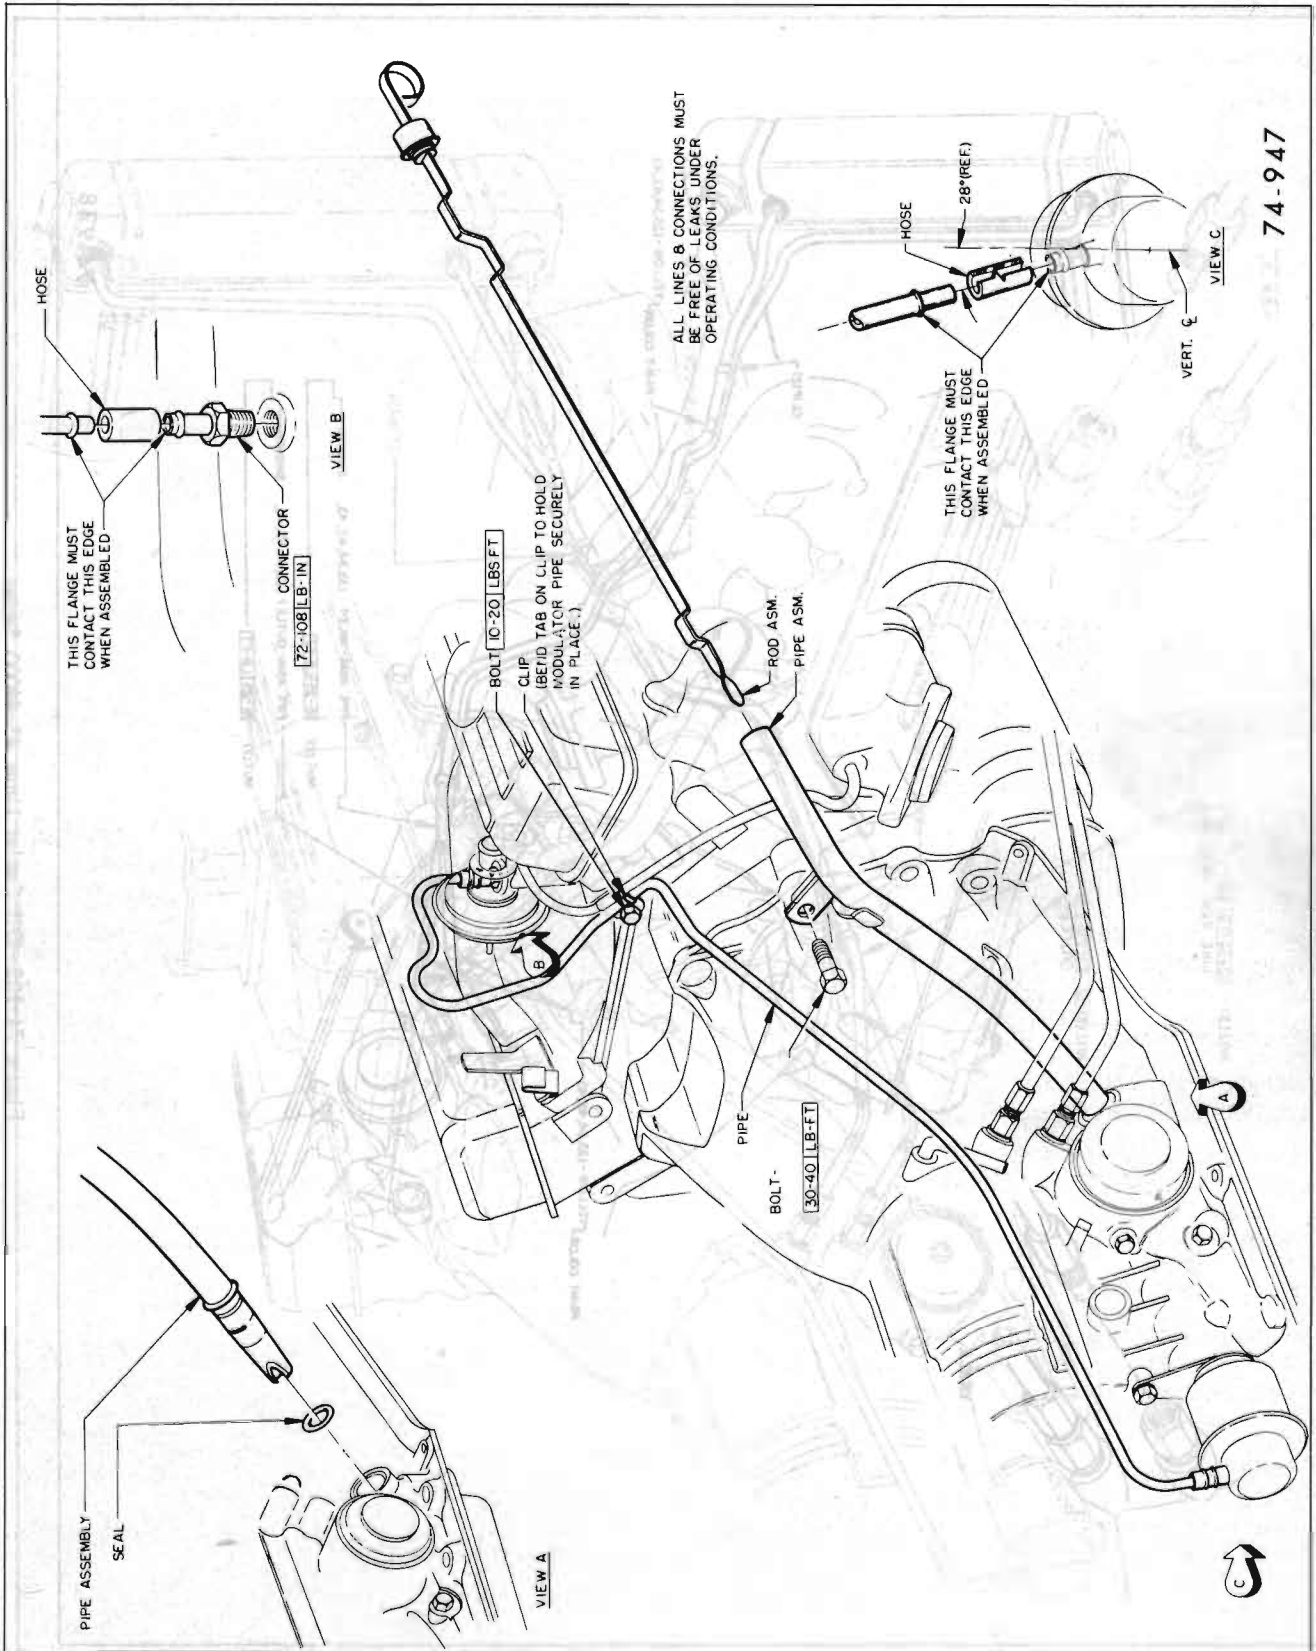

Figure 74-101—Vacuum Line and Oil Filler Pipe 43-44-45000 Series
5. Remove vacuum line from vacuum modulator. See Figure 74-101.
7. Install transmission filler pipe using a new "O" ring. See Figure 74-101.
12. Install vacuum line to vacuum modulator. See Figure 74-101.